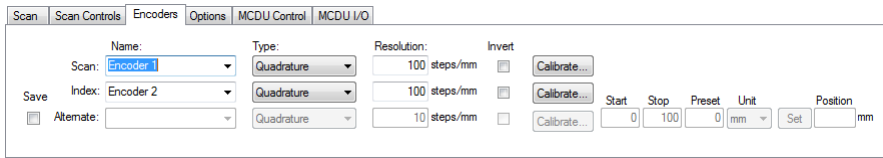

Figure 5-14 The Encoders tab of the Scan and Mechanical Settings dialog box for an Encoded - 2 axis scan type
3. In the **Encoders** tab (see Figure 5-14 on page 310):